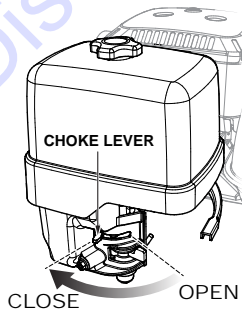

Figure 15. Choke Lever
2. To start a cold engine, move the choke lever (Figure 15) to the CLOSED position.